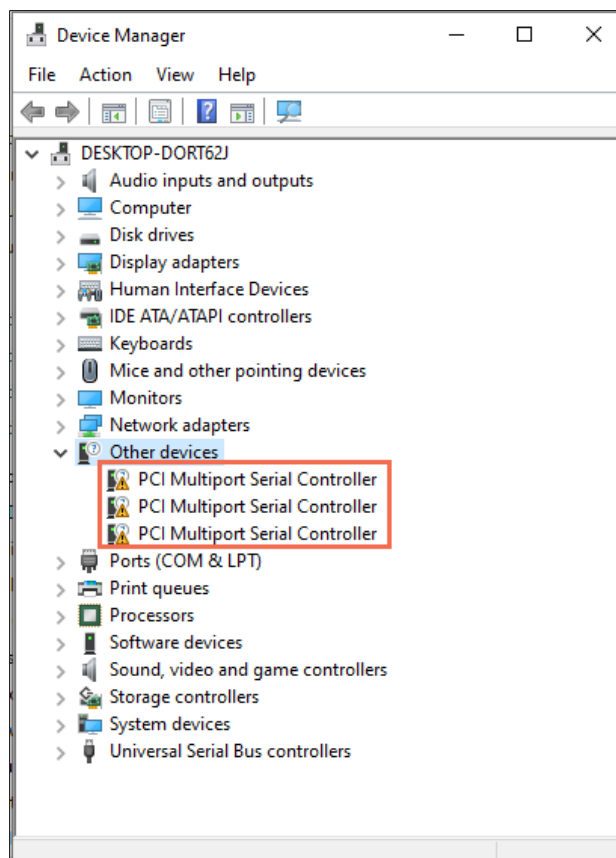

Figure 5.21. Device Manager
1. Open **Device Manager**, which shows the connected PCIe devices, as shown in Figure 5.21.